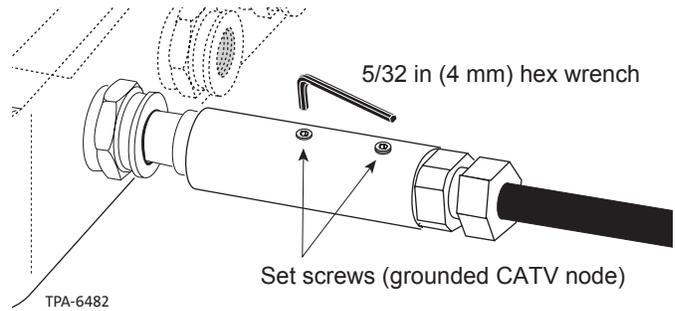

Figure 10
**Step 12:** CATV Node bodies equipped for grounding have two set screws. If present, tighten down the set screws with a 5/32-in (4 mm) hex wrench (Figure 10).